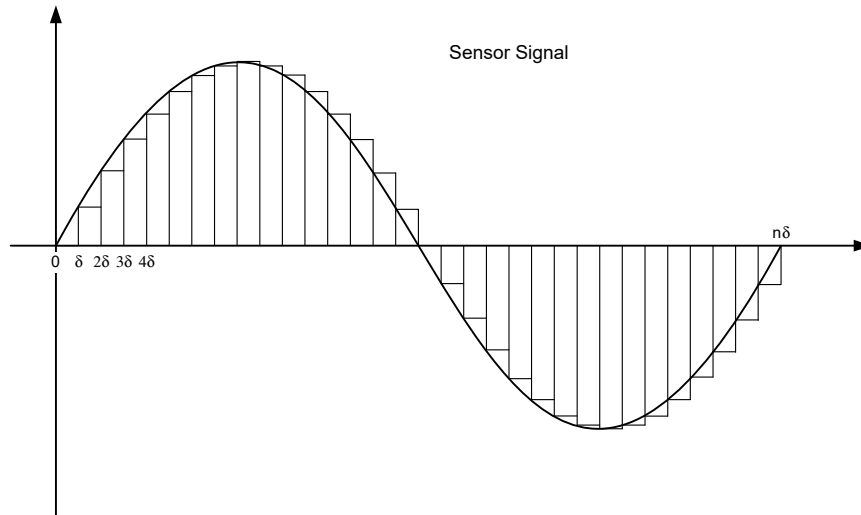

Fig. 7-4 Generation of a Variable Sine Frequency (see Text)
1. You use a **variable sampling period** ΔT_{sample} , with which the data samples of the sine wave with a **constant increment** δ are filled with clock discrete values (see Fig. 7-4).
2. You use a **constant sampling period** ΔT_{Sample} and a **variable increment** δ in the sine table (see Fig. 7-4).